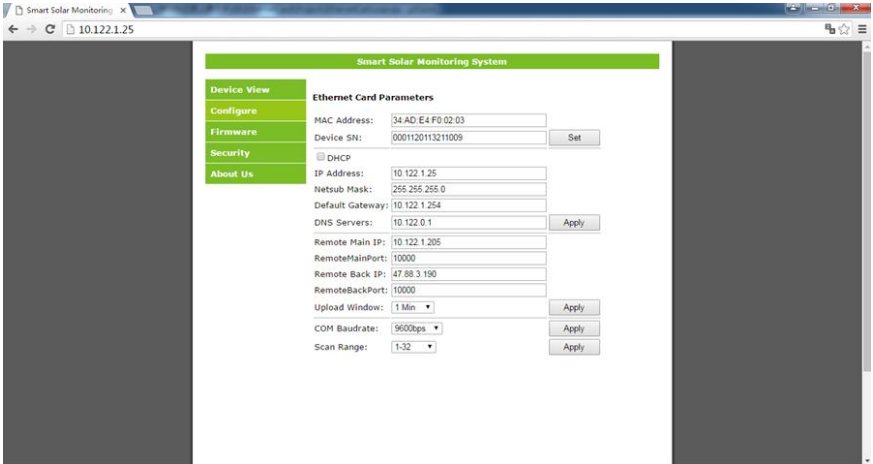

Figure 3-3
2. Set the Remote Secondary IP (currently shown in Figure 3-3 as Remote Back IP) address to the server IP address that the customer provides. This is the location that the data from the inverter(s) will be uploaded to by the Flex Gateway.
3. Set the Remote Secondary Port (currently shown in Figure 3-3 as RemoteBackPort) to 10000.